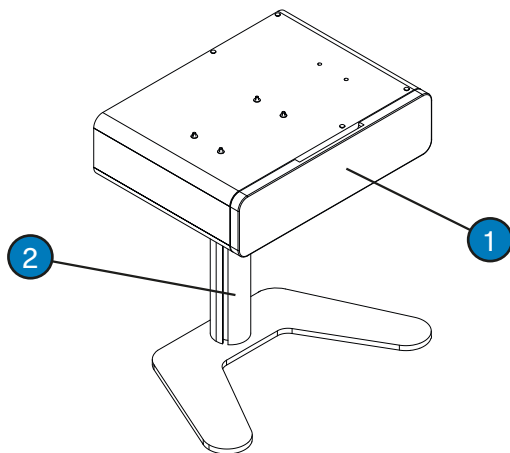

Figure 3-5. Lens drawer.
The trolley (Figure 3-5) is an item designed to hold the test lenses in their drawer (2), in addition to providing a support tray for different items (1).